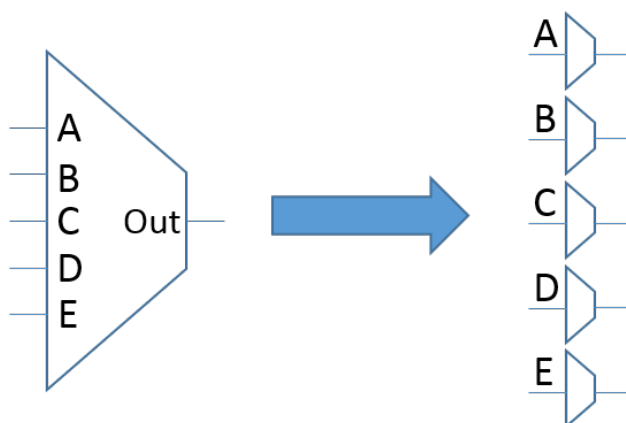

Figure 26: RapidSmith2 site pip decomposition.
- A list of **site pip corrections**. In the XDLRC files that are parsed into RapidSmith, site pips (or routing muxes) are not distinguished from the functional BELs (such as LUTs and Flip Flops) of a site. The Family Info XML identifies the site pips of a site and marks them as either a “mux” or a “polarity_selector.” RapidSmith2 transforms these routing muxes into individual pips as shown in Figure 26 so that they are no longer represented as BELs. After the decomposition, each pip is a routing resource of the site.